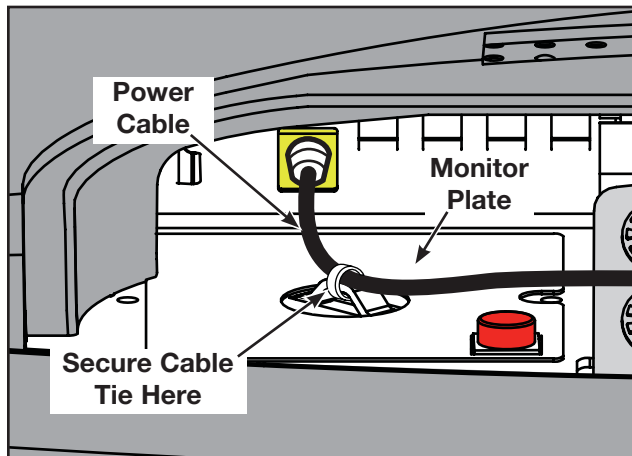

Figure 25
- G. Secure the power cable to the monitor plate using the cable tie (G). See Figure 25.